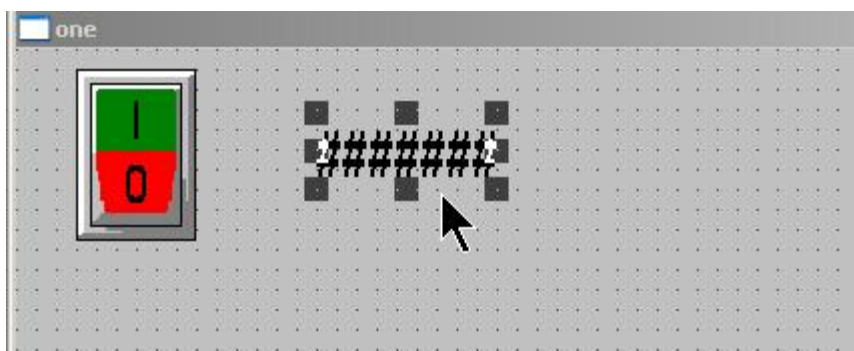

Figure 18-A
13. Add a Number field to InTouch application window – See Figure 18-A